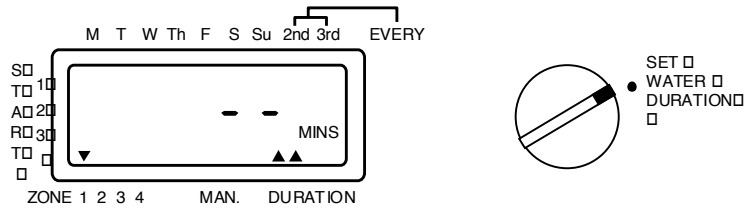

Figure 9
3. Press **ENTER**. Station indicator steps to **Station 2**. Display shows blinking --. (See Figure 9.)